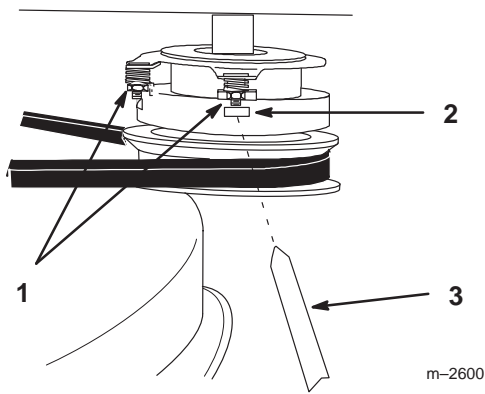

Figure 40
1. To adjust clutch, tighten or loosen lock nuts on flange studs (Fig. 40).
2. Check adjustment by inserting feeler gauge thru slots next to studs (Fig. 40).